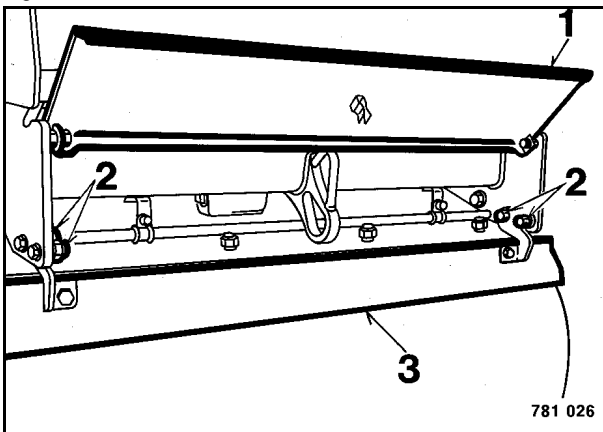

Fig. 2
2. Open flap 1 (Fig. 2).
3. Unscrew the hexagon screws (2) to remove the scrapers (3).